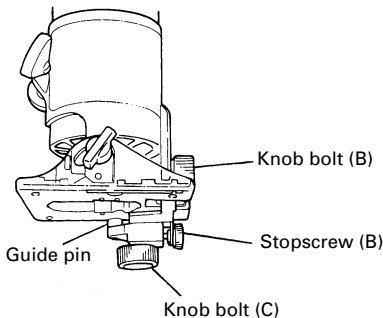

Fig. 8
- (1) Fit the trimmer guide on the base with knob bolt (B).
- (2) Loosen knob bolt (B) to move the trimmer guide up and down.
- (3) Loosen knob bolt (C) and turn the stop screw to move the guide pin. (Fig. 8)